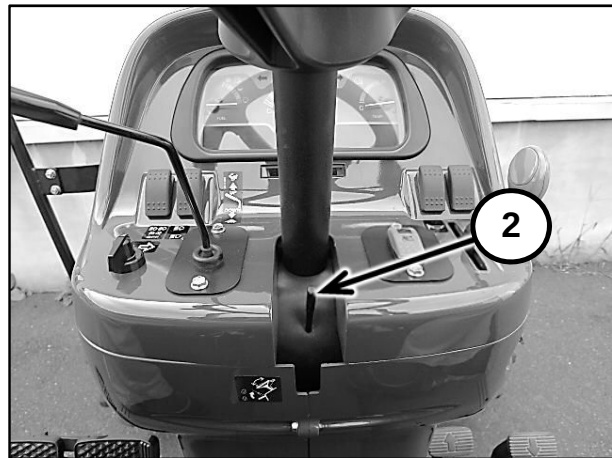

Figure 2-4
To tilt the wheel, push forward the lever (2) in Figure 2-4, and move the steering wheel forward or backward to the desired position. If the wheel is not held in position when the lever is raised, the steering wheel will spring to its most forward position. Use this feature to gain additional clearance when mounting and dismounting the tractor.